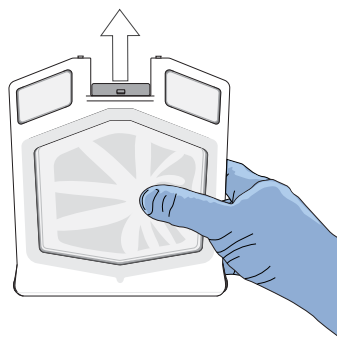

Figure 4 Remove most of the air.
3. Remove the excess air in the cassette by simultaneously pressing the membrane gently on both sides using your gloved thumb and forefinger and insert the cap (Figure 4).